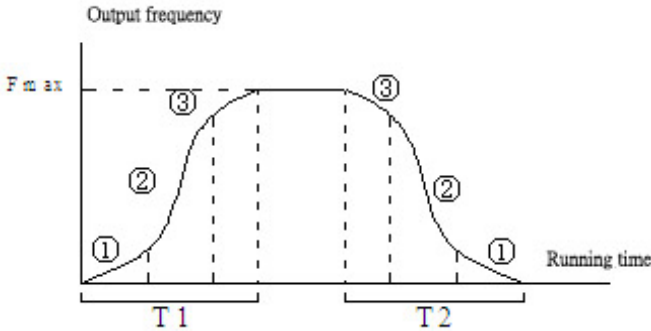

Fig. 6-6 S curve Acc/Dec
In Acc/Dec process, the relationship between output frequency and Acc/Dec time is nonlinear. The output frequency increases or decreases according to the S curve shown in Fig. 6-6.
S curve start time is shown in Fig. 6-6 as ①, which is the stage when the slope of output frequency rises gradually.
S curve rise time is shown in Fig. 6-6 as ②, which is the stage when the slope of output frequency maintains phase.
S curve end time is shown in Fig. 6-6 as ③, which is the stage when the slope of output frequency decreases to zero.